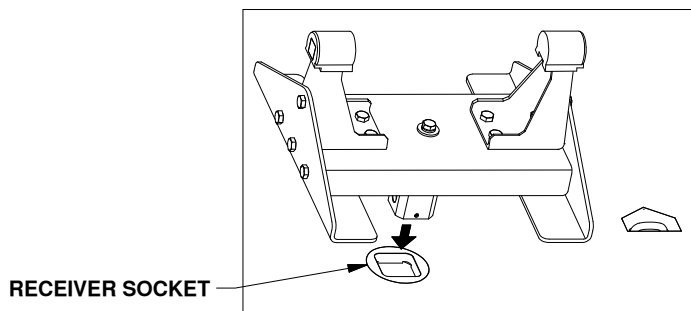

FIGURE C2: View over truck bed.
3. Carefully lift and position the Companion base into the receiver hitch socket in the back of the truck bed as shown in figure C2.